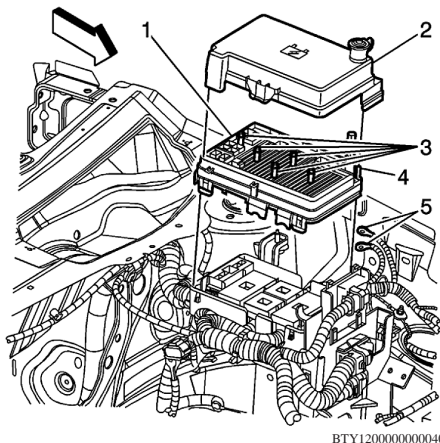

Fig. 1 Underhood electrical center
4. Remove underhood electrical center cover (1), **Fig. 1**.
5. Remove underhood electrical center mounting bolts (3), **Fig. 1**.